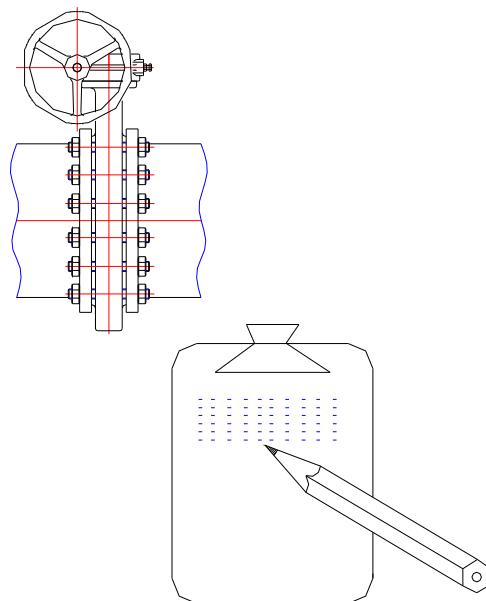

Fig.31
17.3.5 If there are any problems could not be eliminated during service , Please contact Value Valves Co., Ltd. and describe damage condition then we could serve you as sooner as we could. (Fig.31)